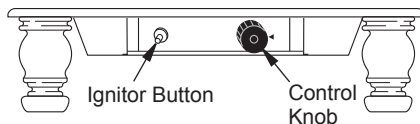

Figure 23 - Control Knob and Ignitor Button Location
4. Wait five (5) minutes to clear out any gas. Then smell for gas, including near the floor. If you smell gas, **STOP!** Follow "B" in the safety information, column 1. If you don't smell gas, go to the next step.
5. Turn control knob counterclockwise  to the PILOT position. Press in control knob for five (5) seconds (see Figure 23).